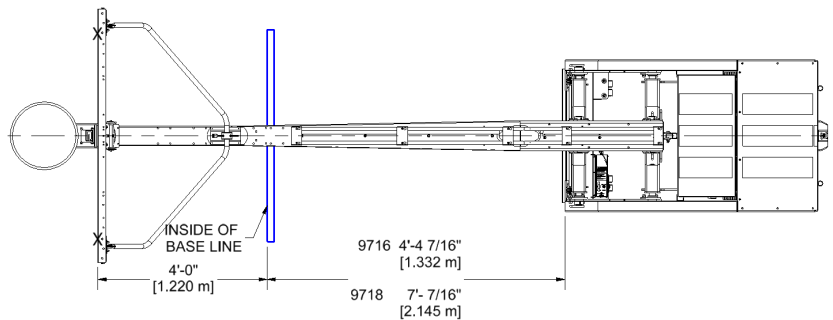
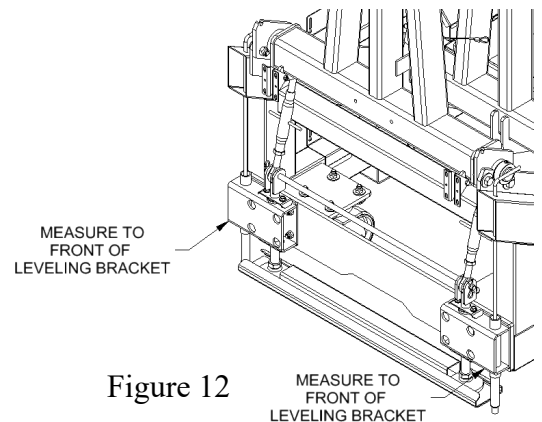
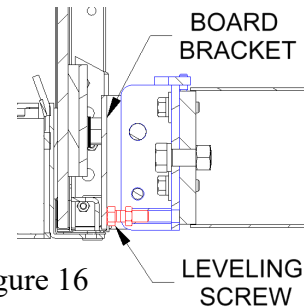

Figure 11
Figure 12
Figure 16
- Push the unit to the playing location on the court. The unit should be centered on the centerline of the court as shown in figure 11. From the inside edge of the court baseline to the front of the frame's Leveling Brackets, figure 12, should be about 4'-4 7/16" [1.332 m] for the model 9716 and 7'-0 7/16" [2.145 m] for the model 9718.
- To level the backboard in the vertical plane, first loosen the two carriage bolts, item 2, at the Board Brace Clamp, item #15, on top of the boom as shown in figure 12. Using a $\frac{3}{4}$ " wrench, loosen the $\frac{1}{2}$ " Jam Nut and adjust the $\frac{1}{2}$ " Leveling Screw in the board mounting bracket as shown in figure 16 & 17 until the backboard is plumb. Tighten the locking nuts on the leveling bolt. Tighten the two carriage bolts at the Brace Clamp, item #11.